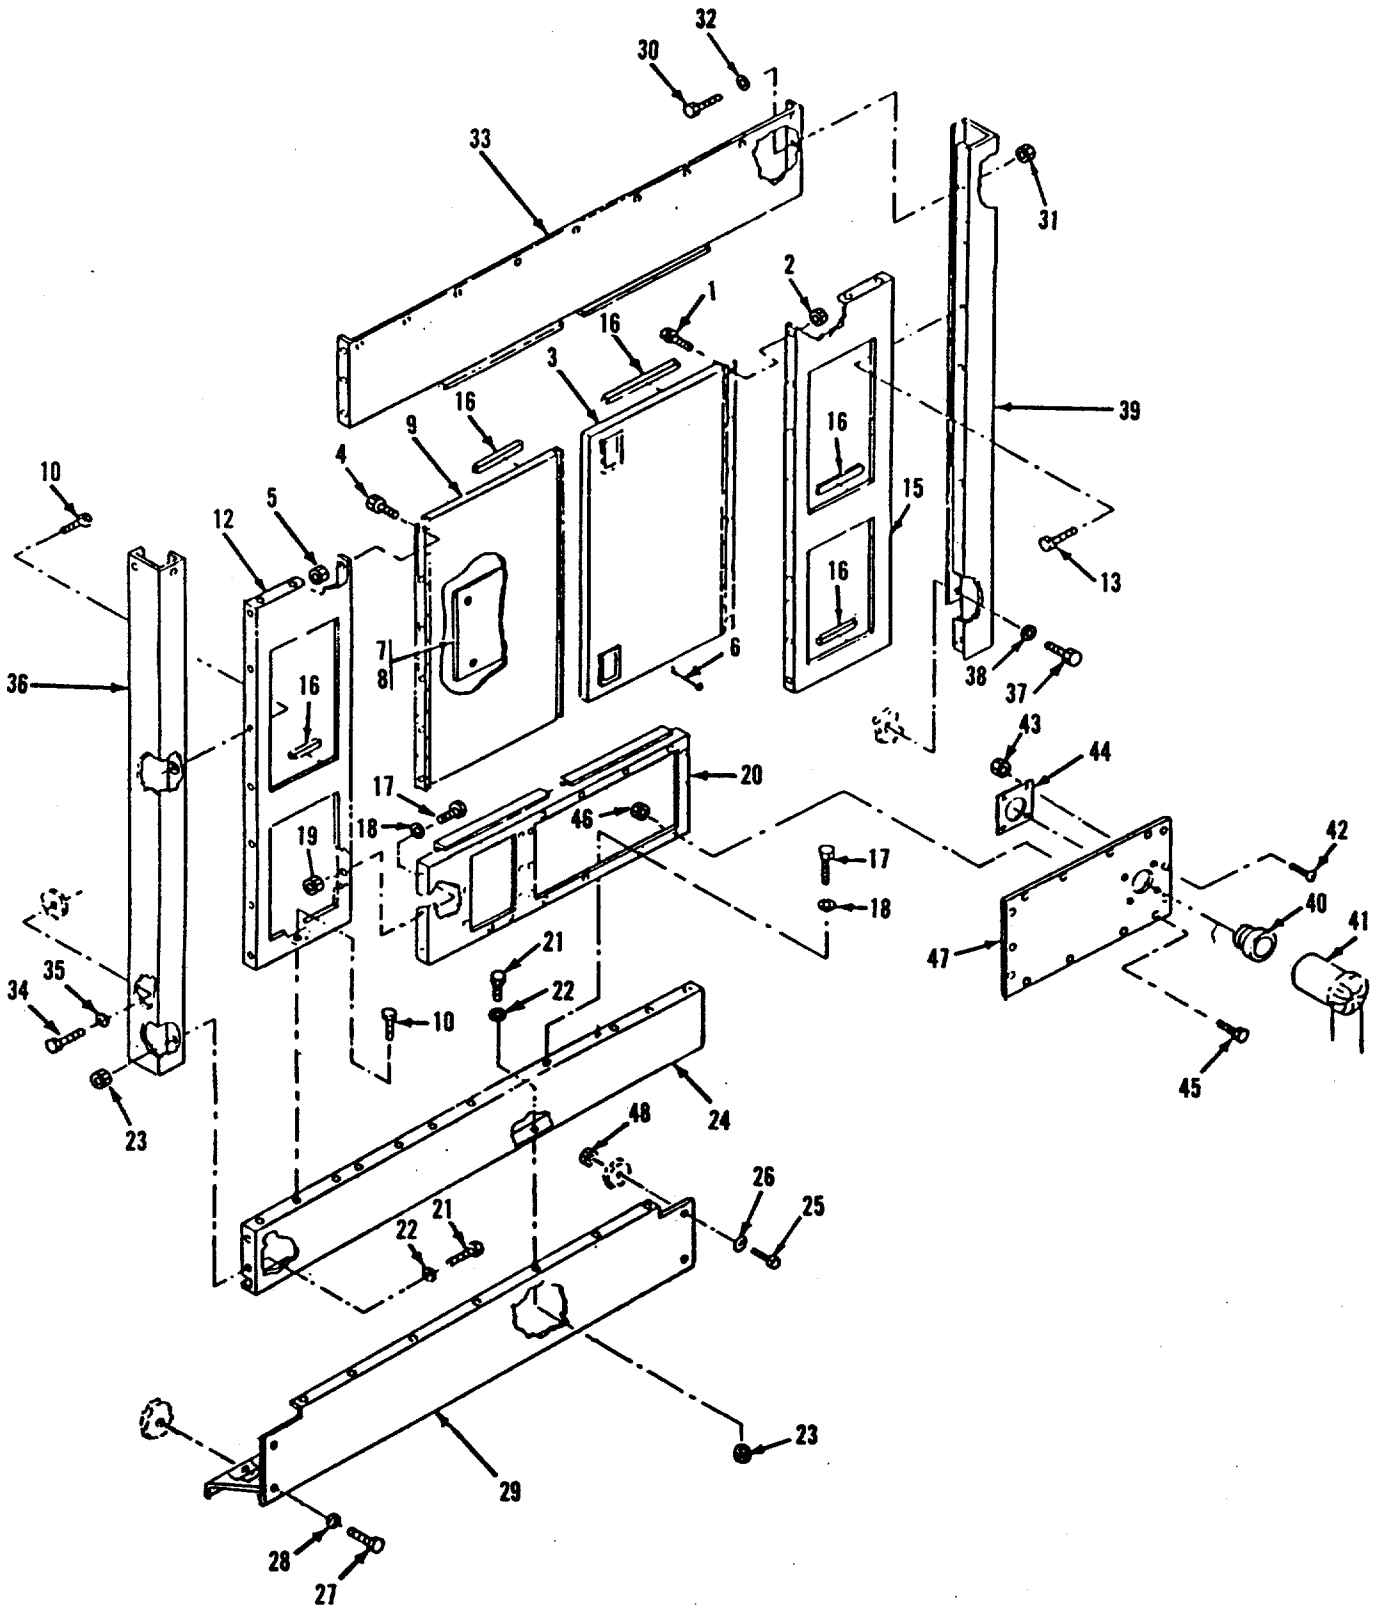

Figure 15-20. Housing Kit, Rear
- (14) Attach corner post (51) to support frame with eight screws (49) and nuts (50); and install three screws (37) and nuts (38) attaching corner post (51) to support frame at the bottom.
e. Rear. Refer to figure 15-20 and install as follows:
- (1) Attach corner post (36) to support frame with screws (34) and washers (35).
- (2) Similarly, attach corner post (39) to frame with screws (37) and washers (38).
- (3) Install upper panel (33) to both corner posts (36 and 39) with six screws (30), washers (32), and nuts (31).
- (4) Attach lower panel (24) to panel (20) with six screws (17) and washers (18). Attach bottom of panel (24) to top of panel (29) with seven screws (21), washers (22) and nuts (23). These three panels will be installed later on.
- (5) Install right-hand panel (12) to corner post (36) and upper panel (33) with ten screws (10).
- (6) Similarly, install left-hand panel (15) to corner post (39) and upper panel (33) with ten screws (13).
- (7) Install panels (20, (24), and (29) pre-assembled in step (4) by attaching to the base assembly with four screws (25), nuts (48), washers (26); and four screws (27), and washers (28). Bolt right-hand panel (12) to panel (20) with three screws (17), washers (18), and nuts (19). Bolt panel (24) to right-hand panel (15) with three screws (10). Bolt left-hand panel (15) bottom to panel (24) with three screws (10). Bolt ends of panel (24) to corner posts (36 and 39) with four screws (21), washers (22) and nuts (23). Install twelve screws around fuel tank filler neck area. Bolt panel (20) to left-hand panel (15) with three screws (17), washers (18), and nuts (19).
- (8) Install access door (9) to right-hand panel (12) with six screws (4) and nuts (5). Attach door holder rod (6); then close loop ends.
- (9) Install operating instructions plate (8) to access door (9) with six rivets (7).
- (10) Install access door (3) to left-hand panel (15) with six screws (9) and nuts (2). Attach door holder rod (6); then close loop ends .
LEGEND FOR FIGURE 15-20